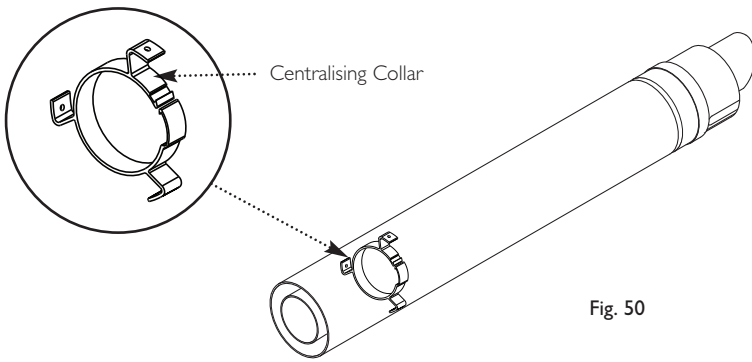

Fig. 50
7. Take the centralising collar (if not already fitted) and engage it over the flue duct. This will centralise the flue and air ducts, and ease assembly (Fig. 50).